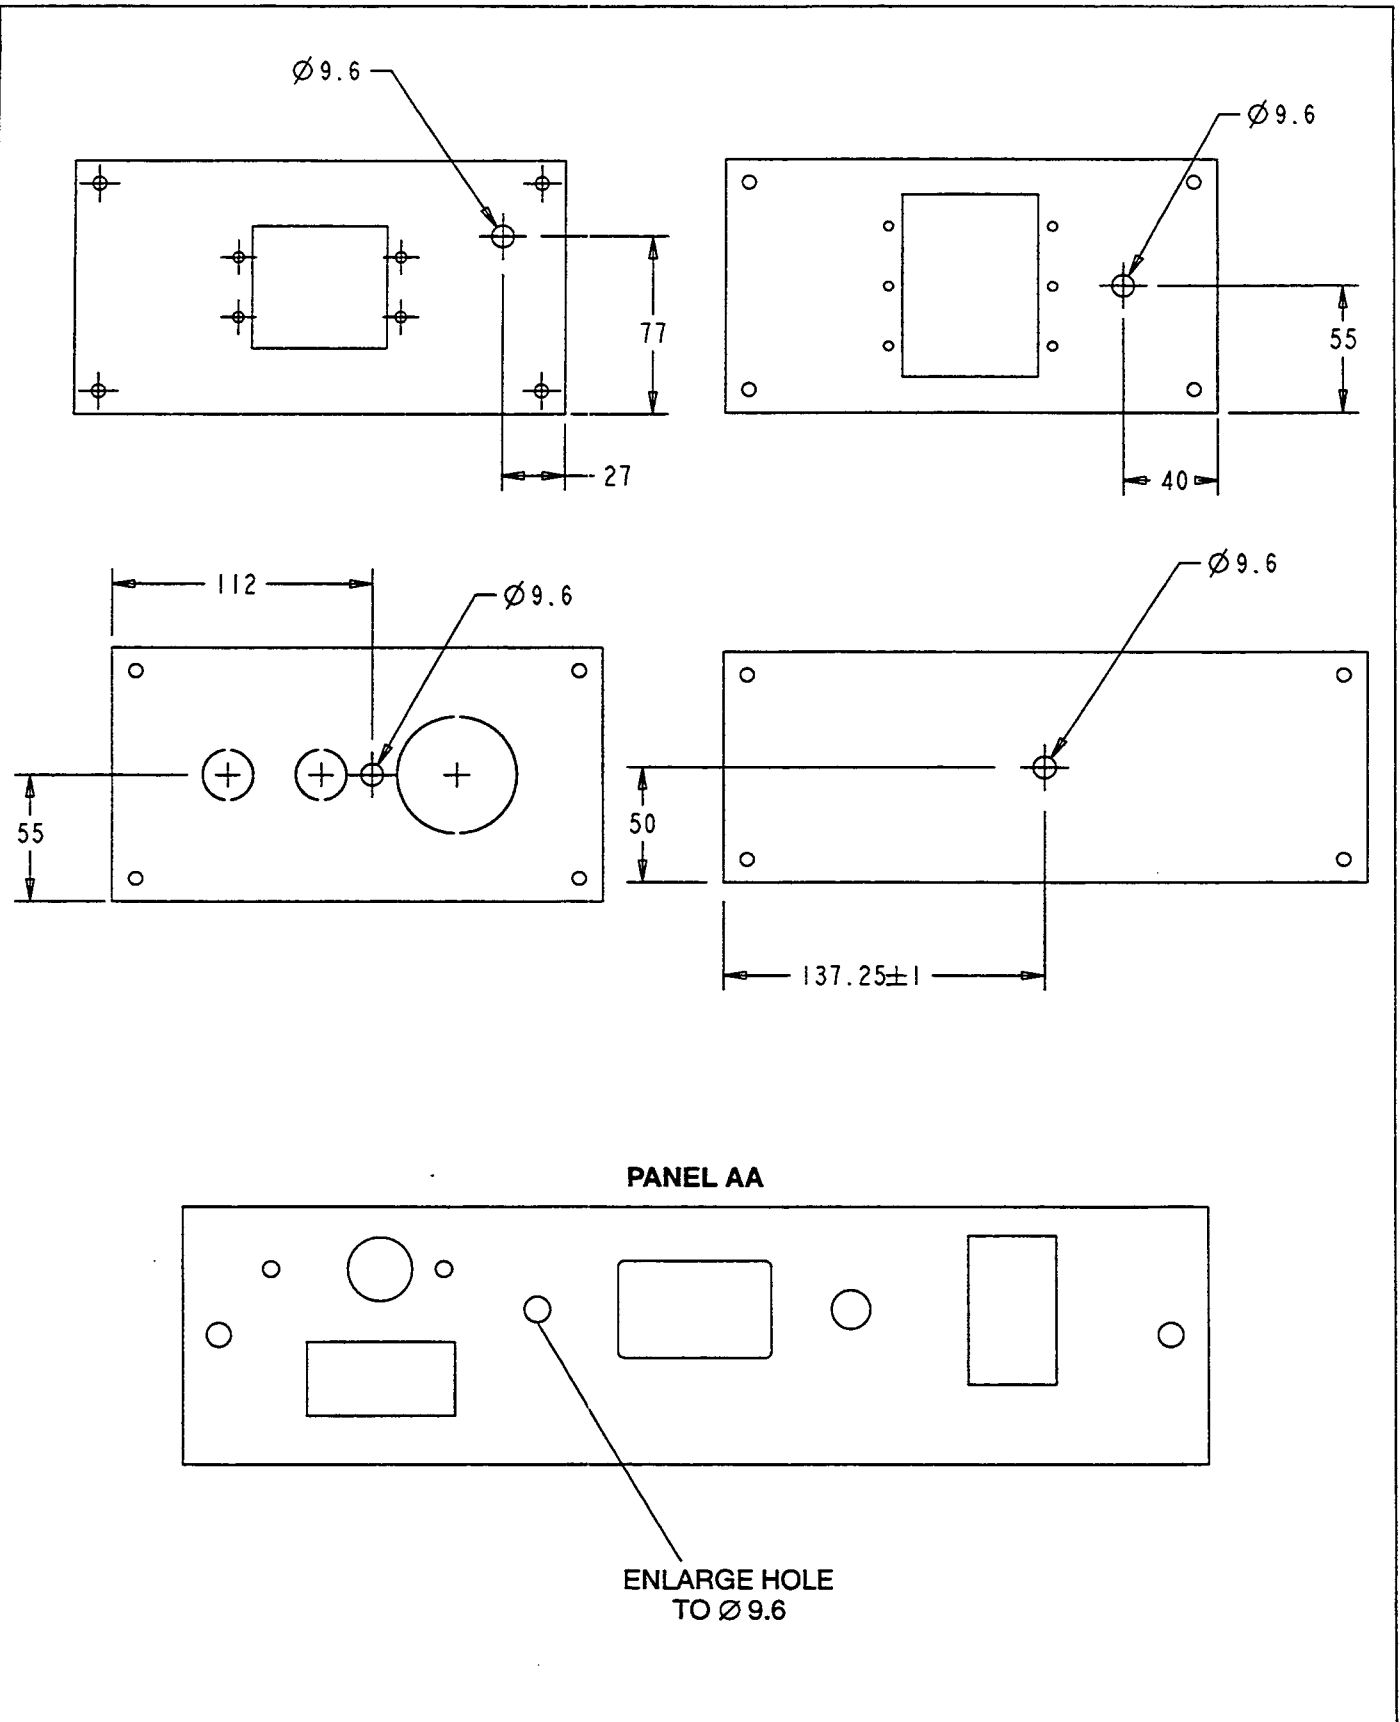

FIGURE 1. CIRCUIT BREAKER LOCATION
4. Remove the appropriate control box panel and drill .375 inch (9.6 mm) hole for mounting of circuit breaker as shown in Figure 1.
⚠ *If panel AA in Figure 1 has an optional dual gage switch, move switch to gage panel first, then enlarge hole in lower control panel for circuit breaker.*